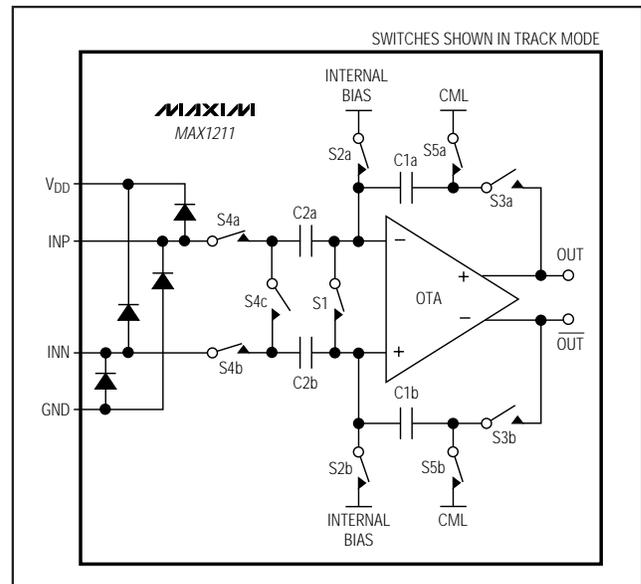

Figure 3. Internal T/H Circuit
Figure 3 displays a simplified functional diagram of the input T/H circuits. In track mode, switches S1, S2a, S2b, S4a, S4b, S5a, and S5b are closed. The fully differential circuits sample the input signals onto the two capacitors (C2a and C2b) through switches S4a and S4b. S2a and S2b set the common mode for the operational transconductance amplifier (OTA), and open simultaneously with S1, sampling the input waveform. Switches S4a, S4b, S5a, and S5b are then opened before switches S3a and S3b connect capacitors C1a and C1b to the output of the amplifier and switch S4c is closed. The resulting differential voltages are held on capacitors C2a and C2b. The amplifiers charge capacitors C1a and C1b to the same values originally held on C2a and C2b. These values are then presented to the first-stage quantizers and isolate the pipelines from the fast-changing inputs. The wide input-bandwidth T/H amplifier allows the MAX1211 to track and sample/hold analog inputs of high frequencies well beyond Nyquist. Analog input INP to INN can be driven either differentially or single ended. For differential inputs, balance the input impedance of INP and INN and set the common-mode voltage to midsupply ( $V_{DD}/2$ ) for optimum performance.
- INP, INN analog inputs are disconnected from the internal input amplifier (Figure 3).